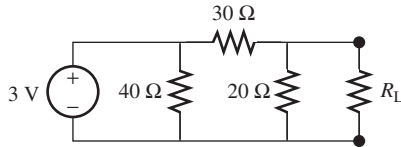

FIGURE P3.55 Circuit for Problem 3.55.
3.55 (A) Find the Norton equivalent as seen by R_L in the circuit in Figure P3.55.